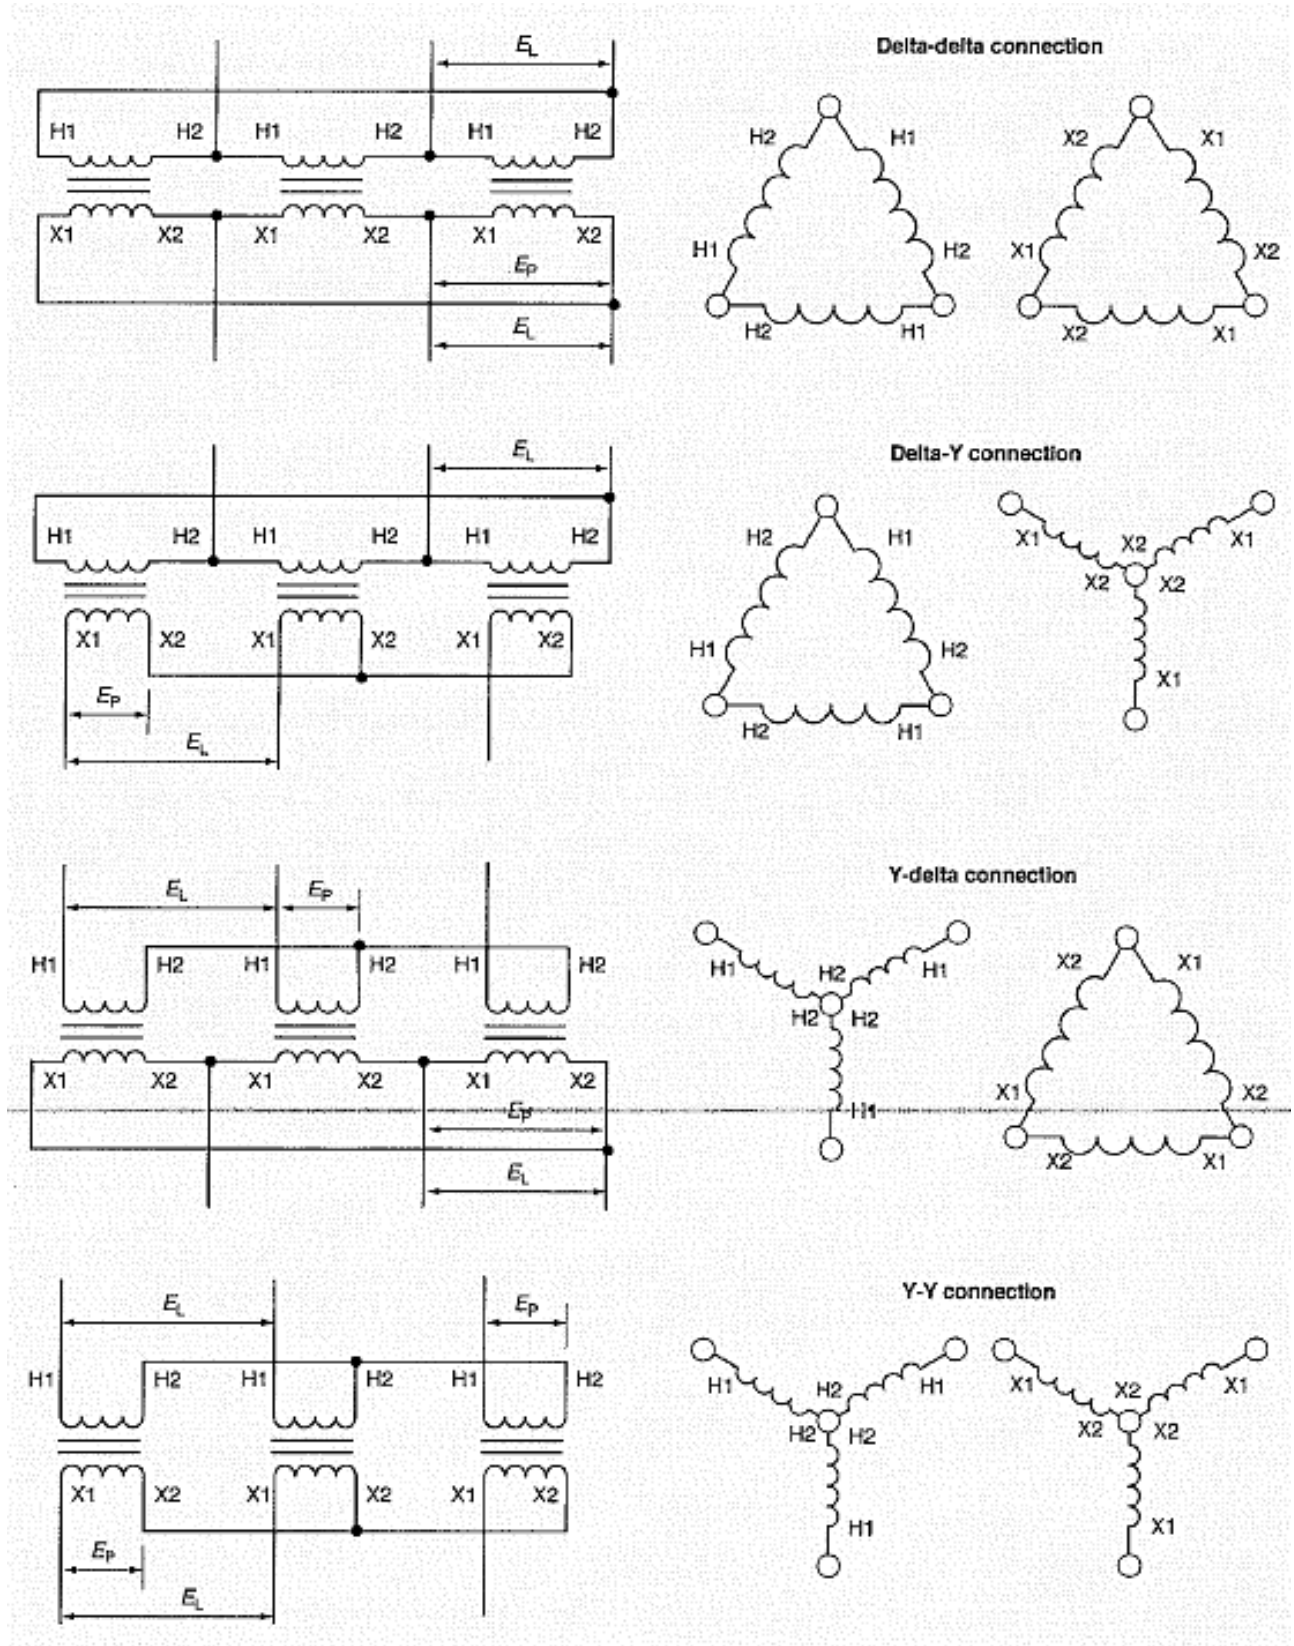

Figure 9.5: Single-Phase Transformers for Three-Phase Systems
All four methods are shown in figure 9.5 on the following page and are described in the following paragraphs.
- 9-33 The Y-Y connection shown in Figure 9.5 provides only 57.7% of the line potential difference across each winding. But each winding carries the full line current. The Y-Y connection also disturbs communications equipment nearby. For these reasons, Y-Y connections are not often used.